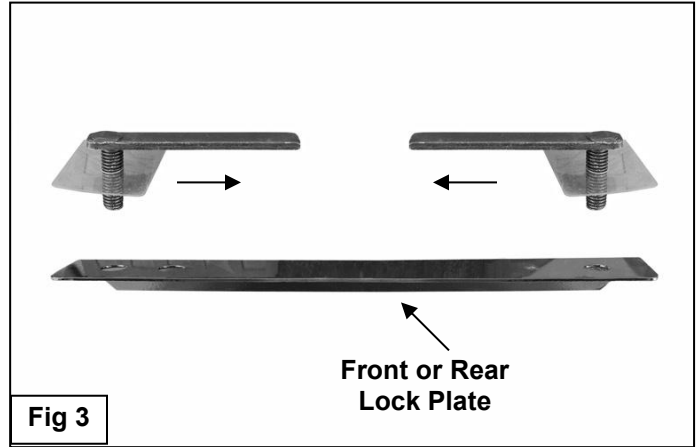
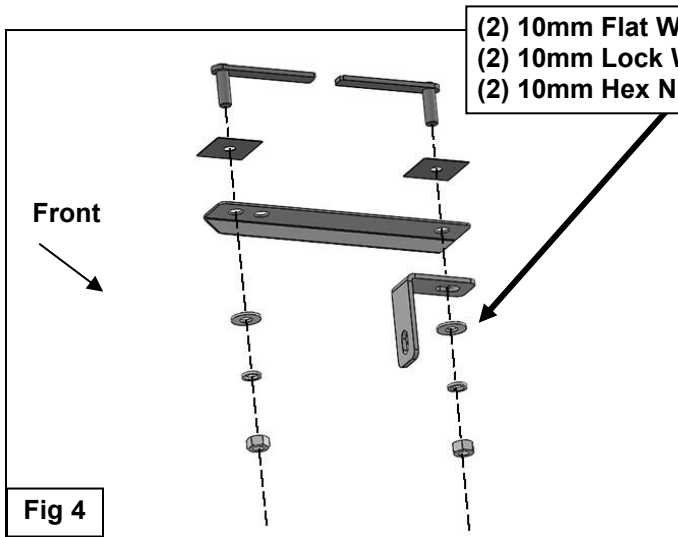

Fig 3
Fig 4
- Insert (1) Bolt Plate into the first-forward hole with the plate pointed toward the rear of the vehicle, **(Figure 2B)**. Thread the Plastic Retainer down tight against the body panel. Repeat to install the next Bolt Plate into the second hole with the Plate pointed toward the front of the vehicle, **(Figures 2B & 3)**. **IMPORTANT:** The Plates on the (2) Bolt Plates must be pointed toward each other, **(Figure 3)**. Repeat this **Step** for all (6) Trim Plate installations.
5. Select (1) Front/Rear Trim Plate, **(Figure 3)**. Slide the Trim Plate over the (2) Bolt Plates with the bent side toward the pinch weld. Attach the Trim Plate to the rear Bolt Plate only with (1) 10mm Flat Washer, (1) 10mm Lock Washer and (1) 10mm Hex Nut, **(Figure 4)**. Tighten the Hex Nut at this time.
6. Select (1) Front L-Bracket, **(Figure 6A)**. Attach the shorter leg on the L-Bracket to the front Bolt Plate with (1) 10mm Flat Washer, (1) 10mm Lock Washer and (1) 10mm Hex Nut, **(Figures 4 & 6B)**. Do not tighten hardware.